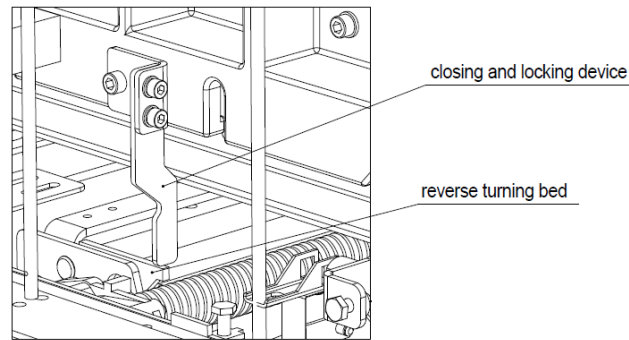

Fig. 9
When the contactor is closed, the chassis car cannot shake. There is a combined brake interlocking device above the turnover plate of the chassis truck, which presses the turnover plate of the chassis car. If the contactor is in the test position, the square hole (11) of the lock in the test position will lock the screw rod, and the chassis vehicle cannot shake; if the contactor is in the working position, the working position latch (6) will resist the screw, and the chassis vehicle cannot shake, so as to avoid pulling the isolation contact with load (Fig. 9).